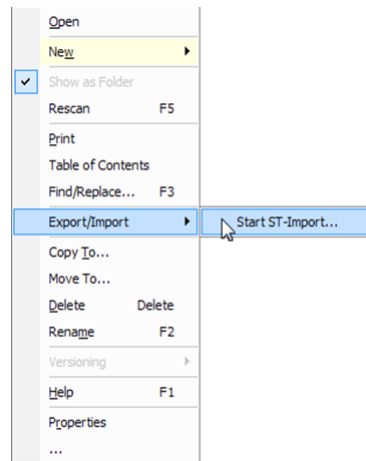

Figure 170: Importing KNX types in logi.CAD.
6. Select **Export/Import** → **Start ST-Import** from the context menu of the newly created library, as shown in Figure 170.